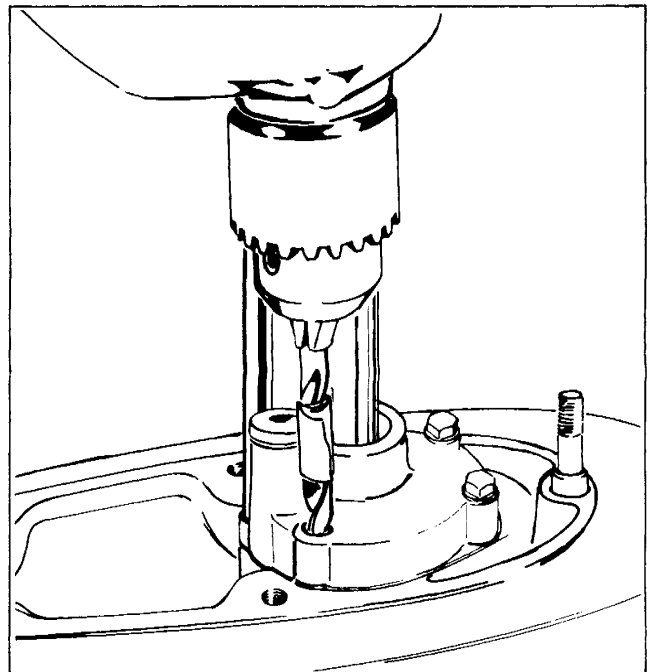

FIGURE 3
6. Drill the gearcase until tape is even with top of impeller housing. See Figure 3.